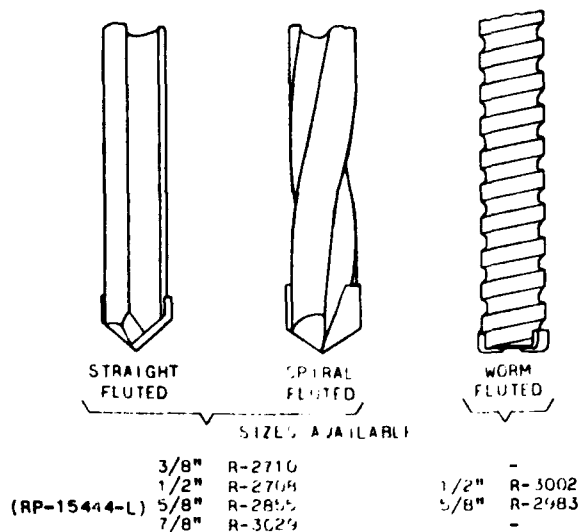

FIG. 3 TYPES OF CARBIDE TIPPED MASONRY DRILLS (PAR. 4.32)
4.32 There are three types of carbide tipped drills available as illustrated in Figure 3. The "straight" and "spiral" fluted drills require more pressure than the "worm fluted" drills and are normally used with the electric drill mounted in a drill stand. The "worm fluted" drills are intended for use only where it is impracticable to use a drill stand for obtaining high pressure, such as where drilling in concrete walls and where the use of impact tools is prohibited.